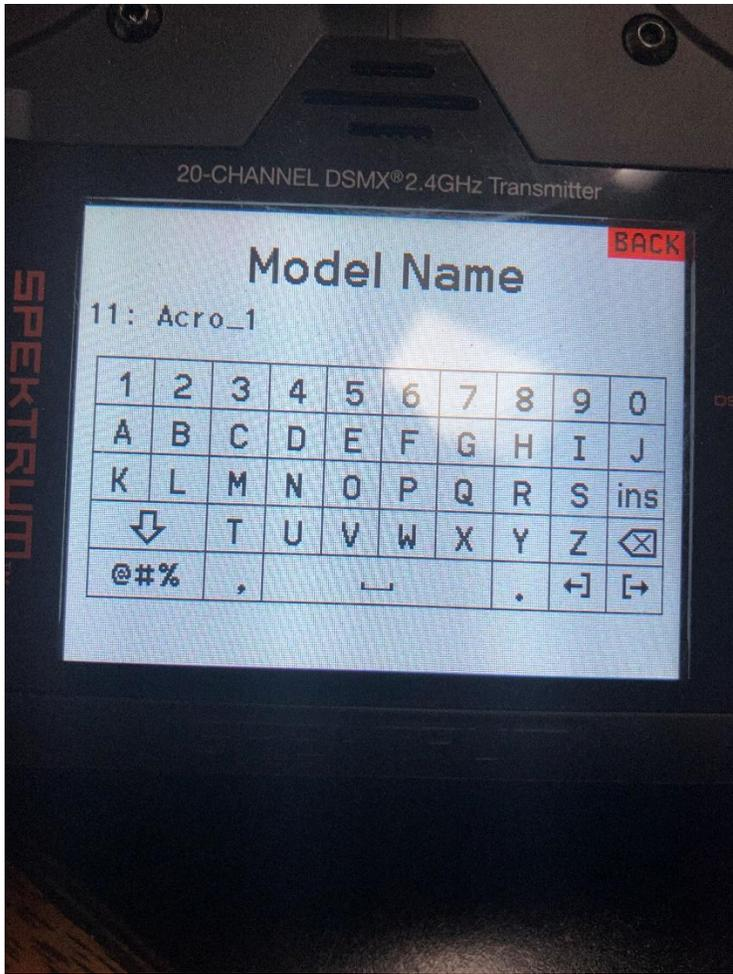

Figure 5.0 Model Name editor
- f. Scroll down past **Model Type** because it already knows you're programming an airplane and select **Model Name**, then click it. In the **Model Name** editor screen use the scroll wheel and scroll button to enter the model's unique name. I will use the **Acro_1** for this procedural example. Once you have typed that name in, click the back button until you get back to the **System Setup** screen. You can see in *Figure 5.0* that I have entered **Acro_1** for the name of our example.